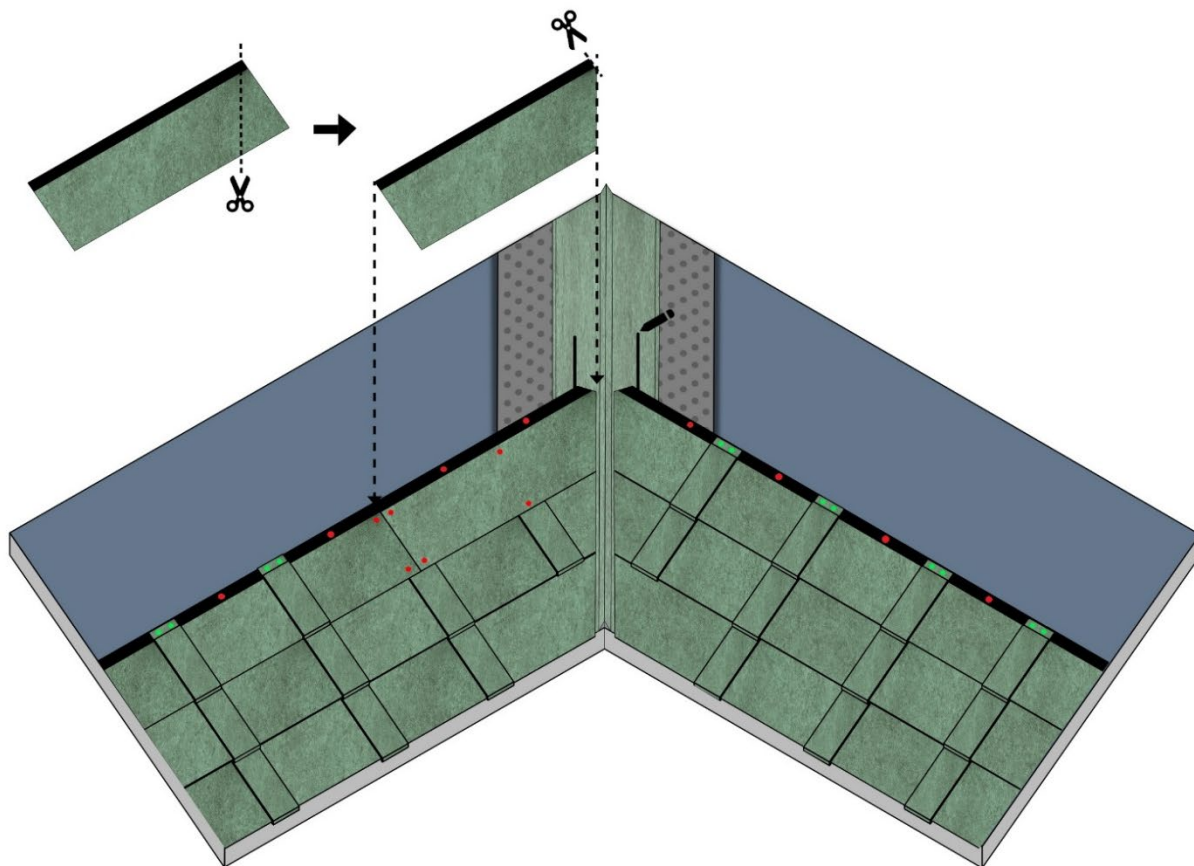

Fig. 16 - Shingles installation at valley
- Install the shingles on the first pitch, up to the valley line, cutting them at 3 cm and parallel to the valley line. Fix the shingles with stainless steel nails, up to approximately 40 cm from the valley line, and with Bitustick, applied in two parallel rows, at distances lower than 40 cm from the valley line, above the metal valley flashing – Fig. 16. It is also advisable to cut the upper edge of the shingle transversely at the valley, to direct the descending water along the valley centreline – Fig. 16.
- Repeat the same procedure for the second pitch. At the end, a channel should be created between the shingles, along the metal valley, where the water will flow preferentially, Fig. 16.